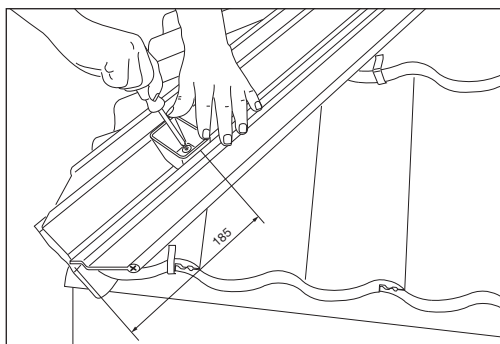

Fig 8 Locate fixing blocks
- 11 Locate PVCu fixing/expansion blocks inside the dry hip batten section and fix to hip tree or rafter using the 75mm x 10g stainless steel drive screws (supplied in fixing kit) (Fig 8).